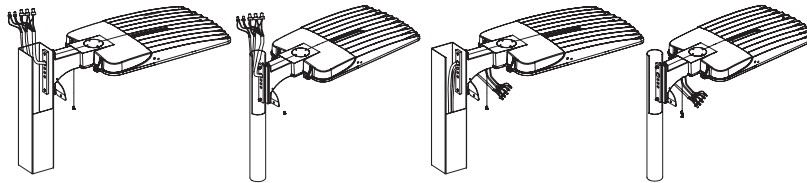

Figure 5
5. Pass the fixture's AC input wires through the pole. Pull them out together with the pole wires for connection as per Figure 5. Pass the pole wires into the PM bracket. Pull them out together with the fixture's AC wire from the junction box. Connect the fixture's AC input wires to pole wires with connectors. L to L (Black), N to N (White), PE to PE (Green). If need to connect dimming wires from pole to fixture, please add connectors to connect Dim + (Purple) to Dim + (Purple) and Dim - (Pink) to Dim - (Pink).